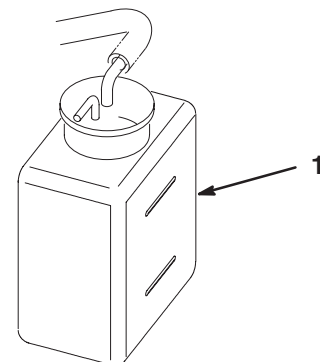

Figure 26
2. Check the coolant level (Fig. 26). It should be between the lines on the reserve tank when the engine is cold.